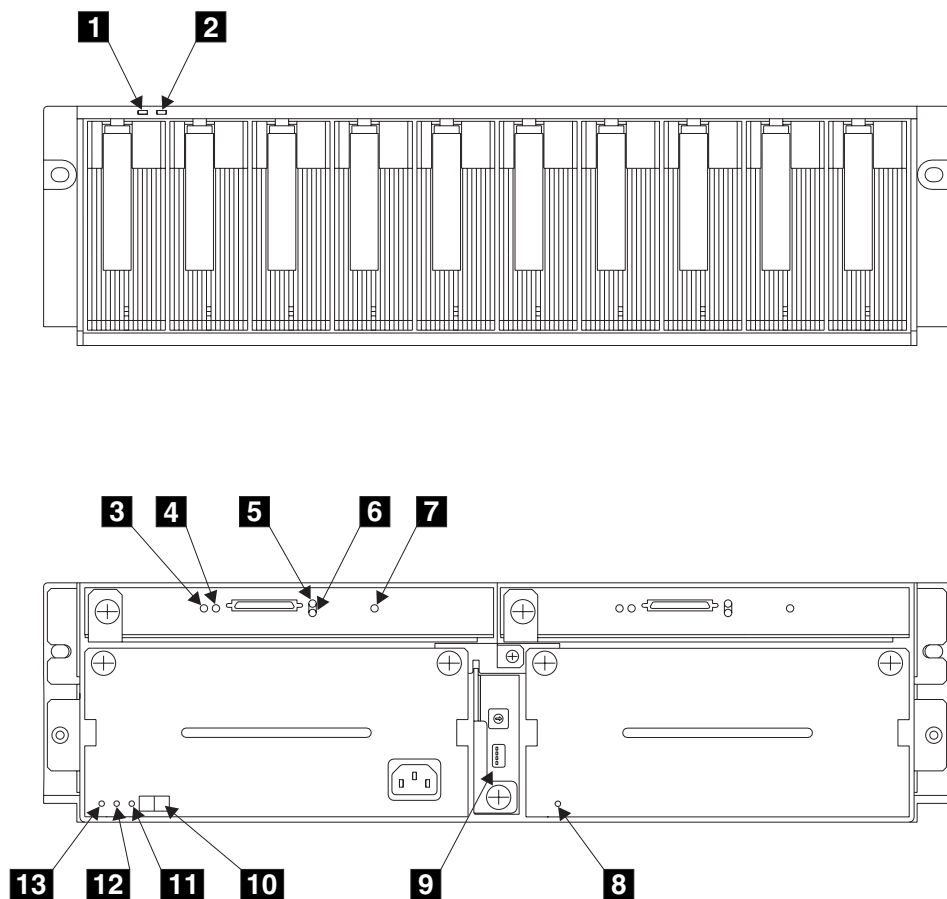
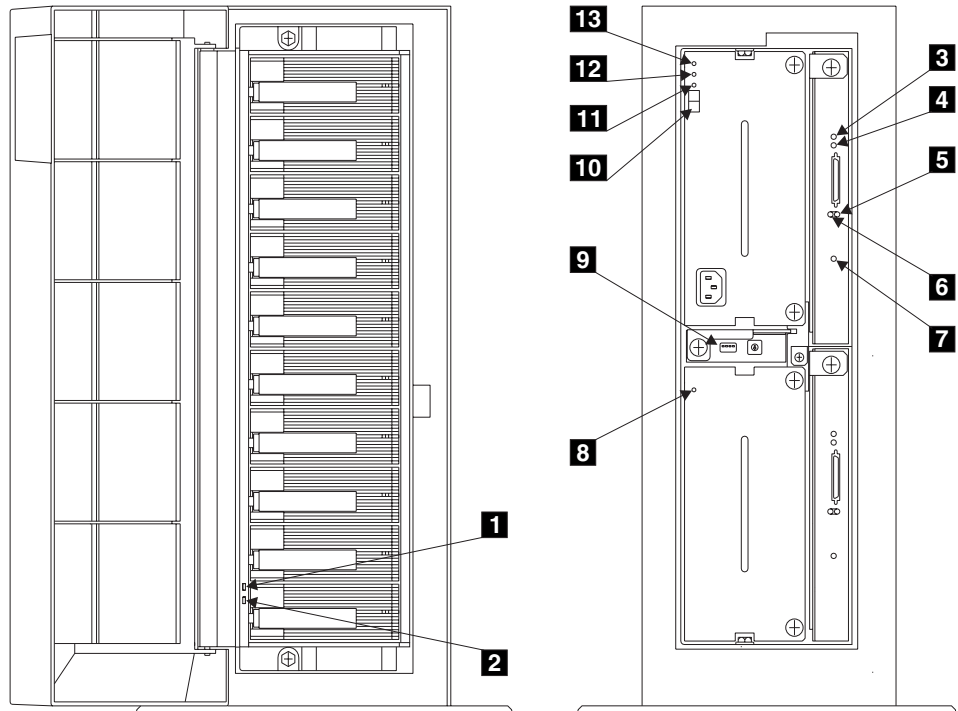
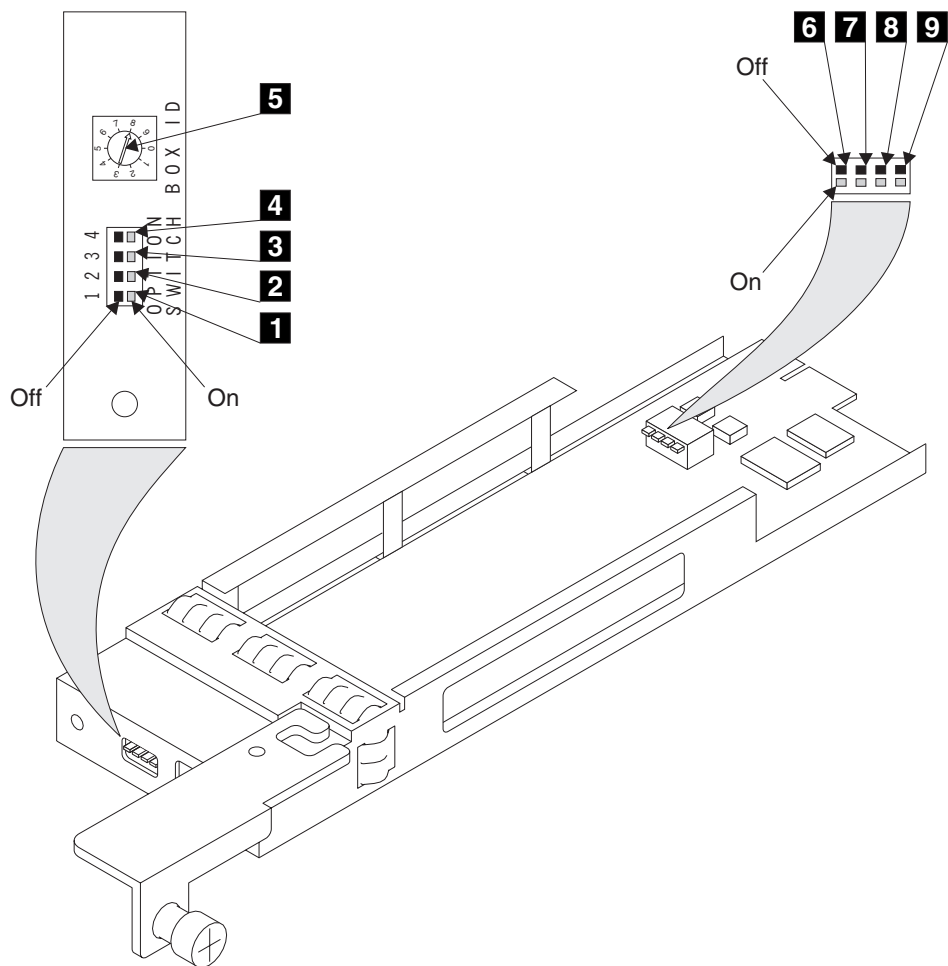
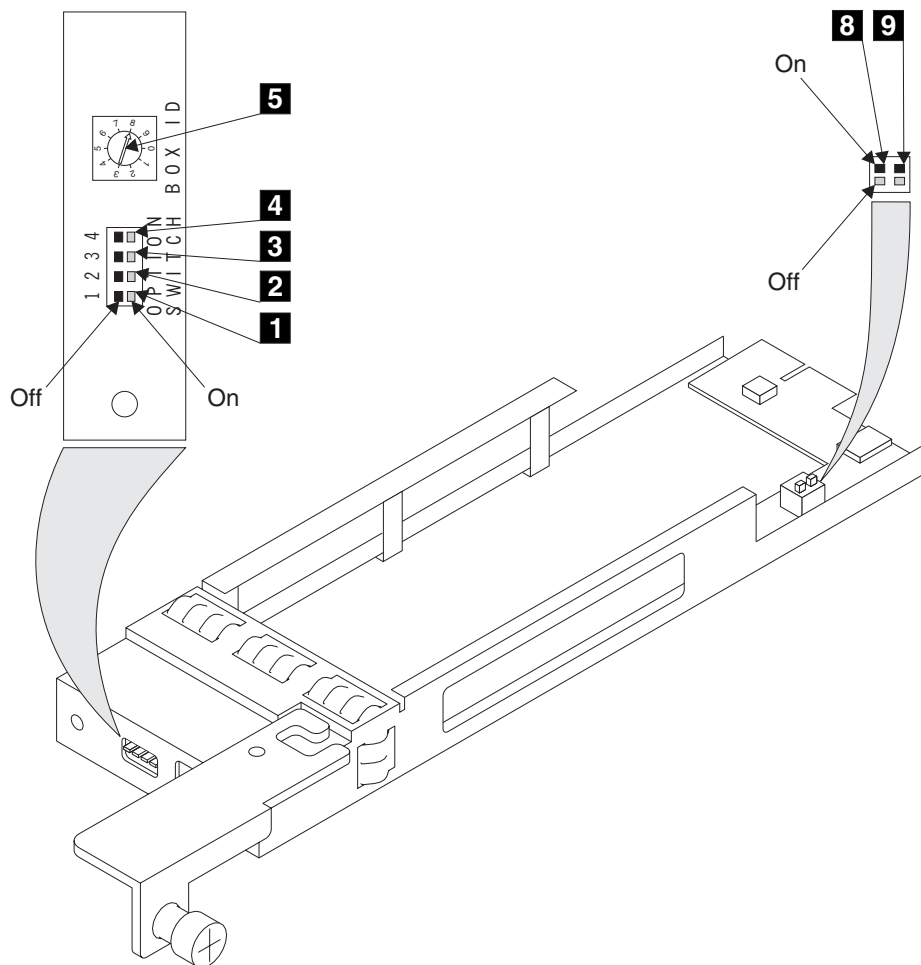

Figure 2. Lights and Switches of the 2104 Model DL1
Figure 3. Lights and Switches of the 2104 Model TL1
Figure 4. Switch Card Switches (Early Type)
Figure 5. Switch Card Switches (Later Type)
Figure 2 shows the lights and switches of the 2104 Model DL1; Figure 3 shows the lights and switches of the 2104 Model TL1.
To identify the lights that are described here, see Figures 2 and 3.
To identify the lights and switches that are described here, see Figures 2 and 3.
To identify the light that is described here, see Figures 2 and 3.
The switch card is item **9** in Figures 2 and 3. To identify the switch card switches, refer to Figure 4 or Figure 5 on page 9, as appropriate for your switch card.
3. The numbers **6** and **7** have been intentionally omitted from Figure 5 so that so that the switch identifications in both diagrams are compatible with the following descriptions.